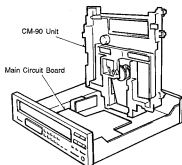

Fig. 10
10. Place the CM-90 Unit upright and fix it with gummed tape. (Fig. 10) Also, remove the connector as necessary.